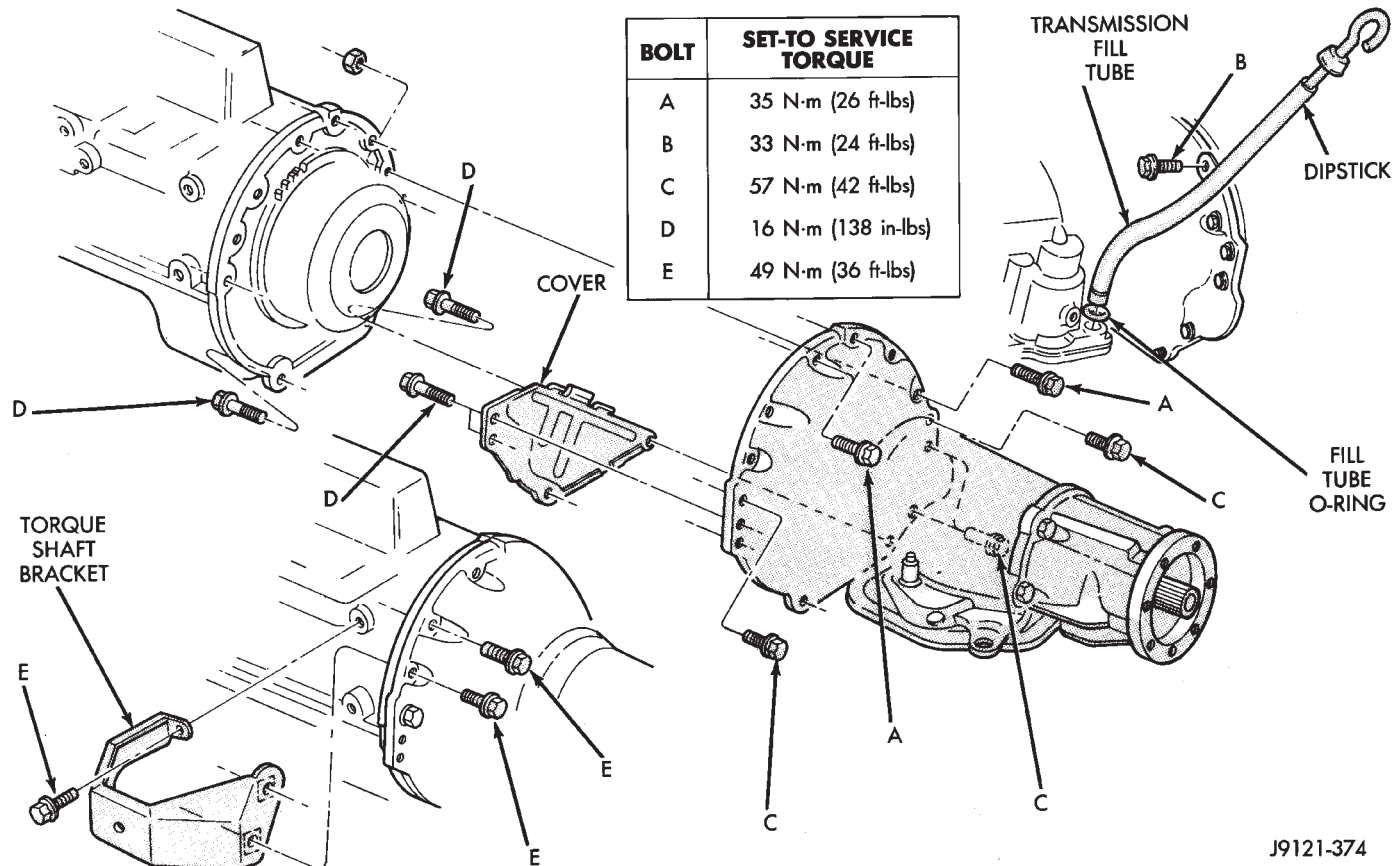

Fig. 19 Transmission Attachment
(10) Raise transmission and align converter with drive plate and converter housing with engine block.
(11) Move transmission forward. Then raise, lower or tilt transmission to align converter housing with engine block dowels.
(12) Rotate converter so alignment marks scribed on converter are aligned with mark on driveplate.
(13) Carefully work transmission forward and over engine block dowels until converter hub is seated in crankshaft.
(14) Install and tighten bolts that attach transmission converter housing to engine block (Fig. 19).